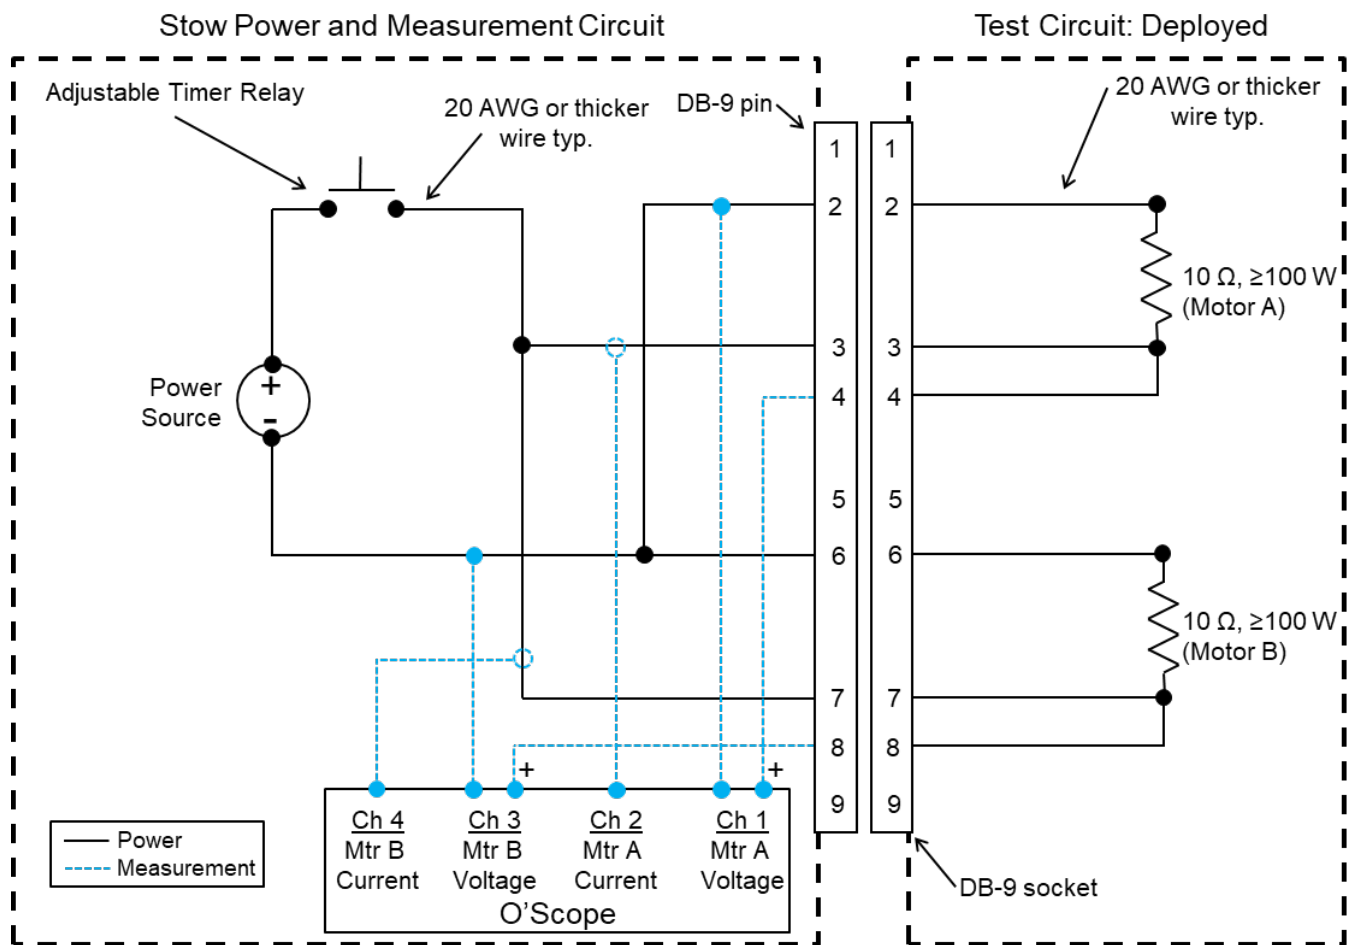

Figure 9-1: Stow test circuit #1
9.1.2	Set up the Stow Power and Measurement Circuit portion of Stow Test Circuit #1 per Figure 9-1.
9.1.4	Set up the Test Circuit: Deployed portion of Stow Test Circuit #1 per Figure 9-1 and connect to the Stow Power and Measurement Circuit .